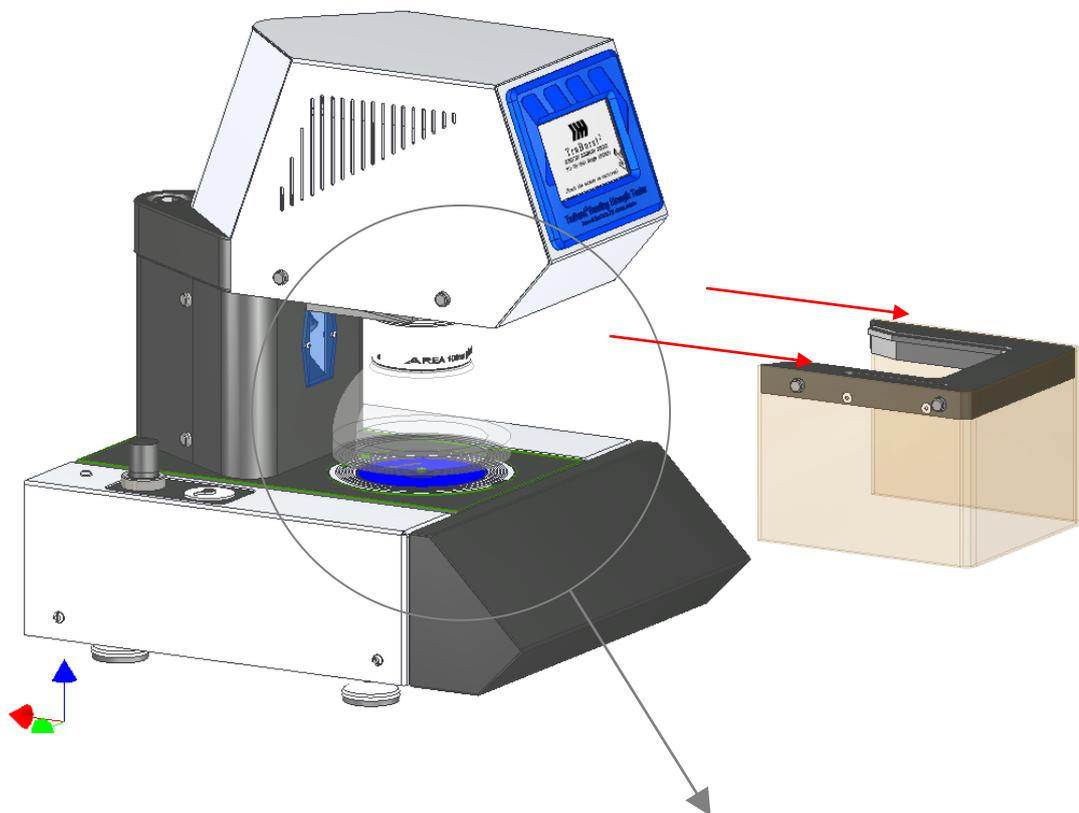

Figure 5: Removing the protective guard and dome assembly
- 3.5.1. Note: it is not necessary to switch off the instrument to change test areas. With reference to *Figure 5*, ensure the instrument is in the unclamped (open) position with any specimens removed.